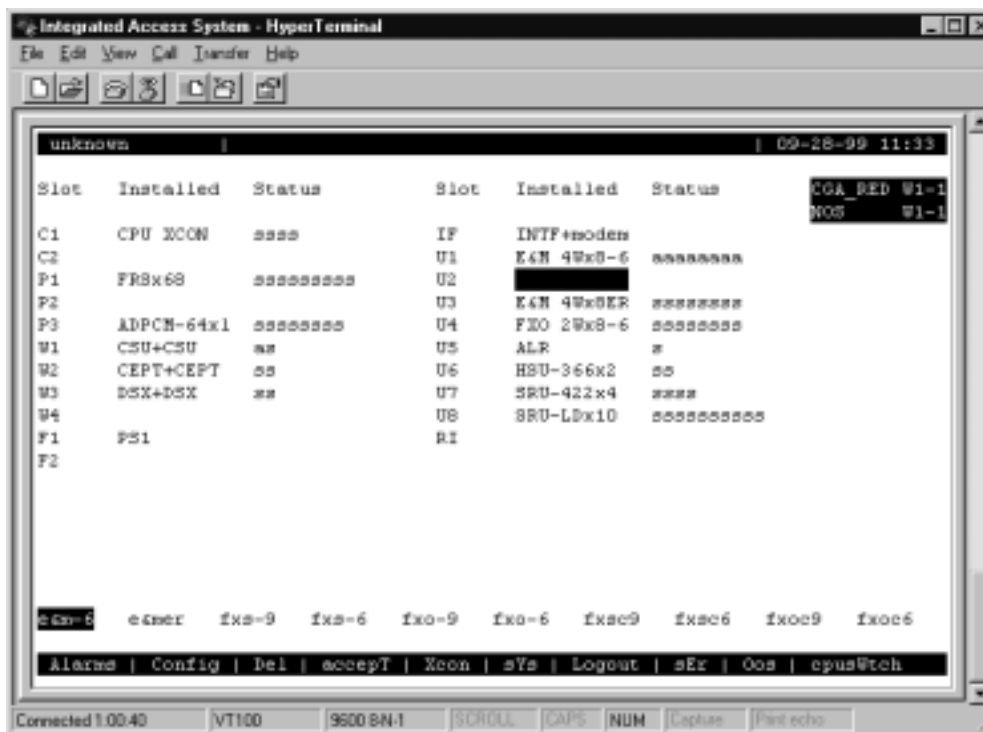

Figure 5-40. Typical Card Slot and Type Selection
2. Place the cursor on the first user card slot that will have a card. In Figure 5-40, slots U5 through U8 will be assigned to 30 time slots on the E1 WAN port.
4. Select the type of voice card from the types listed above the bottom line of the screen, as shown in Figure 5-40. In that screen, **e&m-6** is chosen as the card type (E&M, 600 ohms).